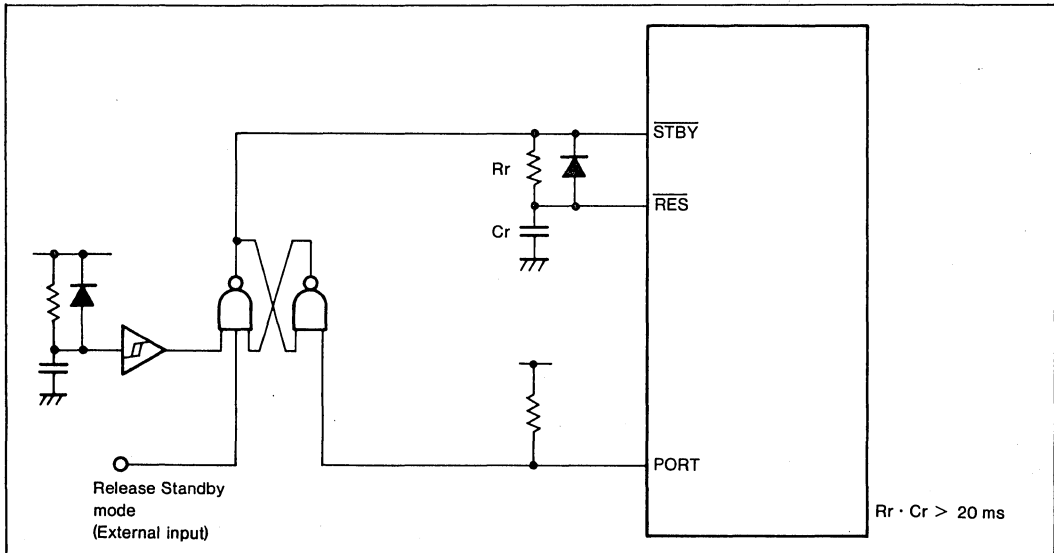

Figure III-17. Reset Input Circuit
**Question:** Does  $C_r$  in the reset circuit shown in figure III-17 ( $R_r \times C_r > 20 \text{ ms}$ ), have an upper limit?